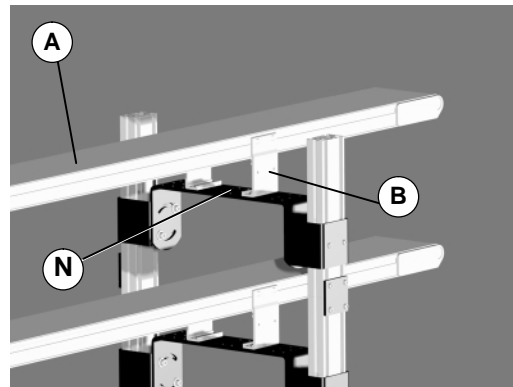

Figure 7
3. Attach conveyor (A of Figure 7) with mounting brackets (B) to stand mounting bracket (N). Dependent on conveyor series, mounting bracket (B) may vary from those shown. See Conveyor Installation, Maintenance & Parts Manual for additional instructions. Repeat for each stand being installed.